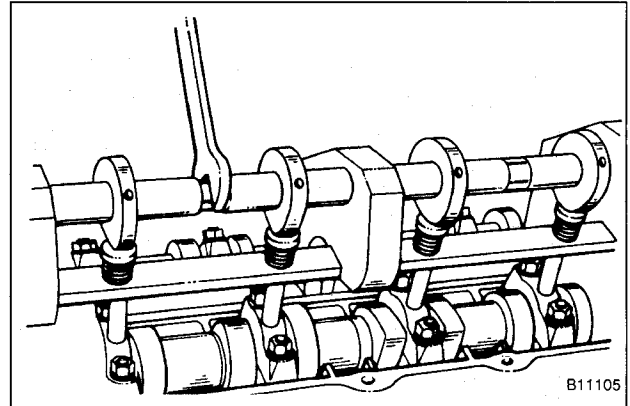

Fig. 7. Special tool (eccentric shaft) being turned to apply pressure to camshaft bearing caps.
6. Turn eccentric shaft on special tool until pressure is applied to camshaft bearing caps. See Fig. 7.